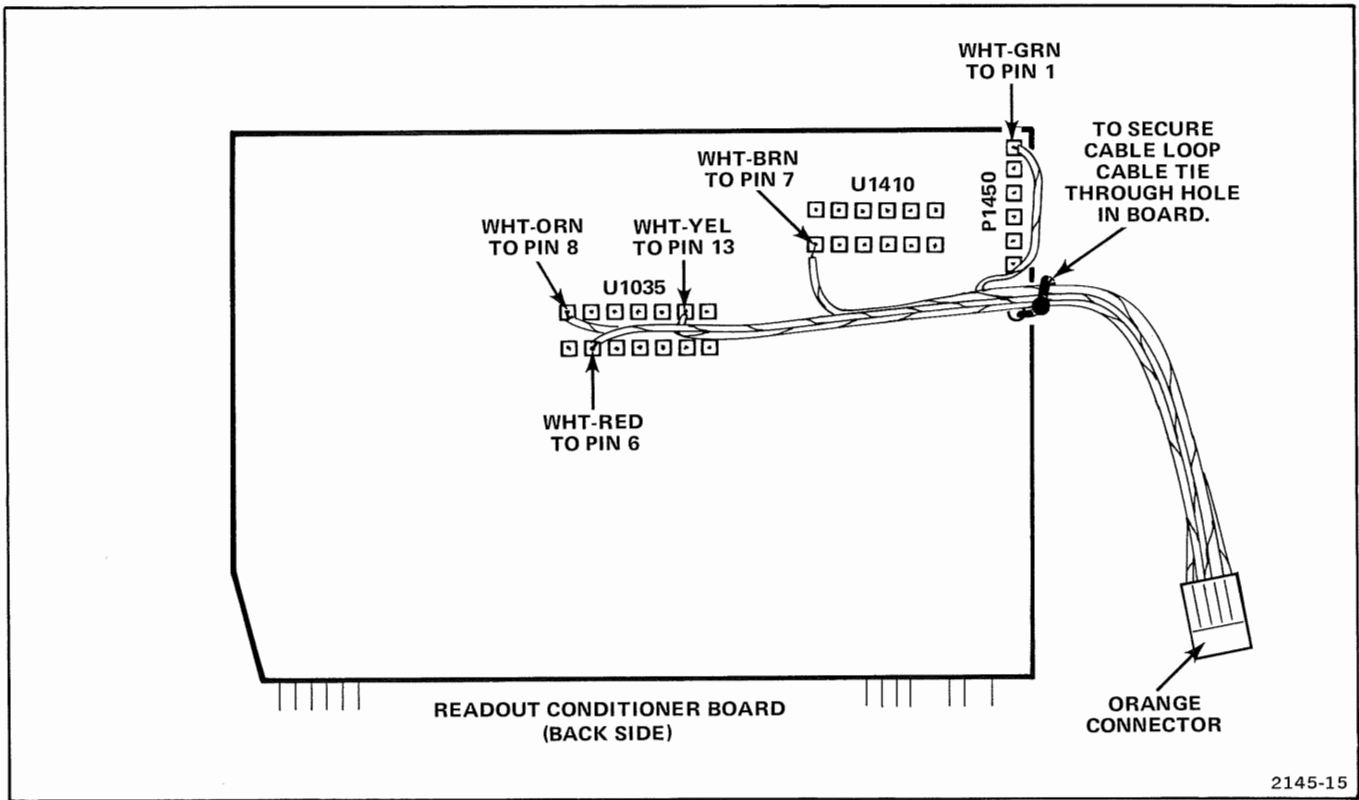

Figure 1-22. Installing 5-wire cable to 414 Option 21 (MOD FA) Readout Conditioner Board.
2. Install 5-wire cable (with orange connector) to Readout Conditioner Board as shown in Figure 1-22.